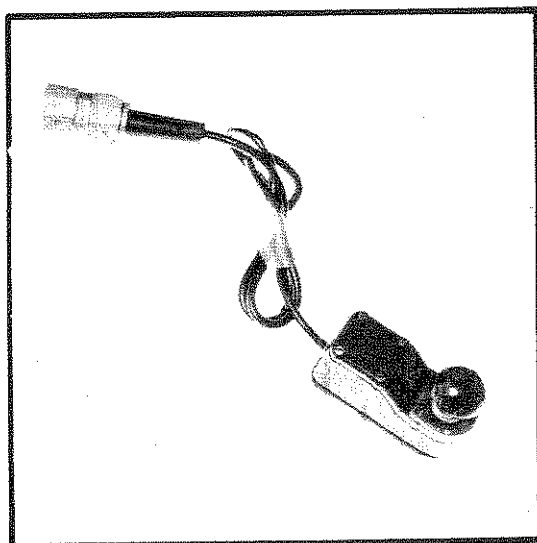

FIG 15
26. Key, Telegraph, Lightweight (KY-F1A1). (Fig 15). This is a sealed (non-adjustable) key fitted with an integral cable and five pin connector. Grooves on the base of the key, and a guideway on the top of the transceiver enable the key to be attached to the transceiver.